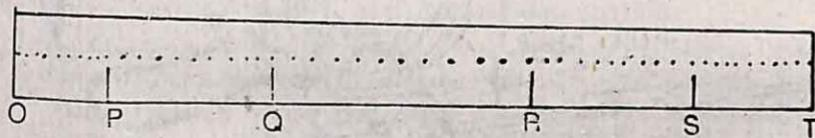

Fig. 8.2
2. The timer starts buzzing when the current is switched on. Grasp the free end of the paper tape in your hand and walk several steps (2 or 3 metres), with this hand on the hip and finally stop. You will get a series of dots on the paper tape as shown in Fig. 8.2. The dots will have occurred at regular time intervals, but they will start close together, then be farther apart. Finally, the distance apart of dots will be very small.
4. Choose a distinct dot on the tape close to starting point as the origin (0) and mark every 10th mark conspicuous by another mark (P, Q, R.....) on it. Measure distance,  $s$ , of these marks from the origin and plot a  $s-t$  graph.